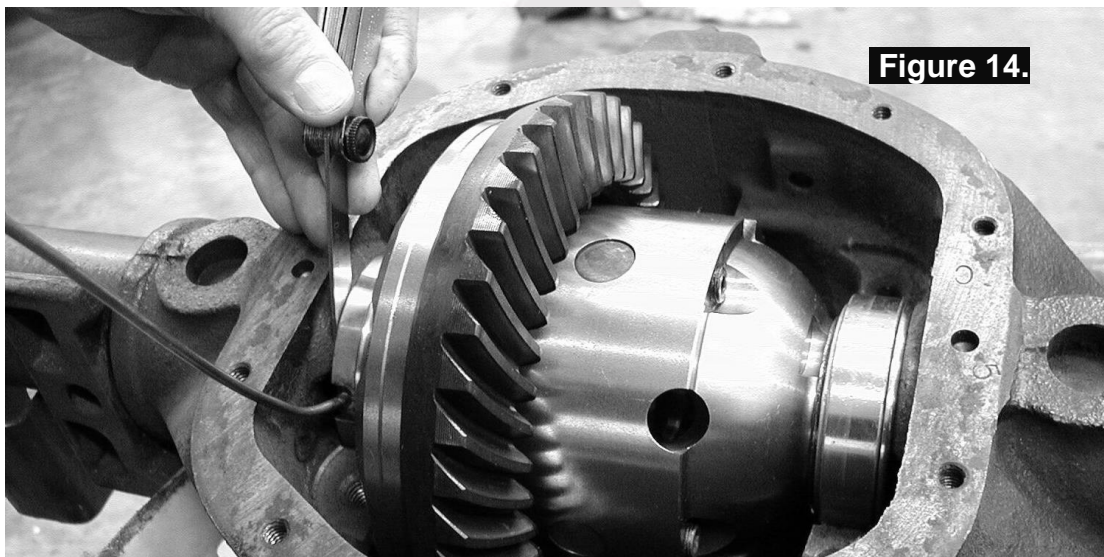

Figure 14.
- Push (or lightly pry) the *Air Locker* hard across to the right-hand side, and measure the maximum gap (also called the 'end float') between the outside of the seal housing and the inside face of the axle housing with an automotive feeler gauge. (Fig.14.)